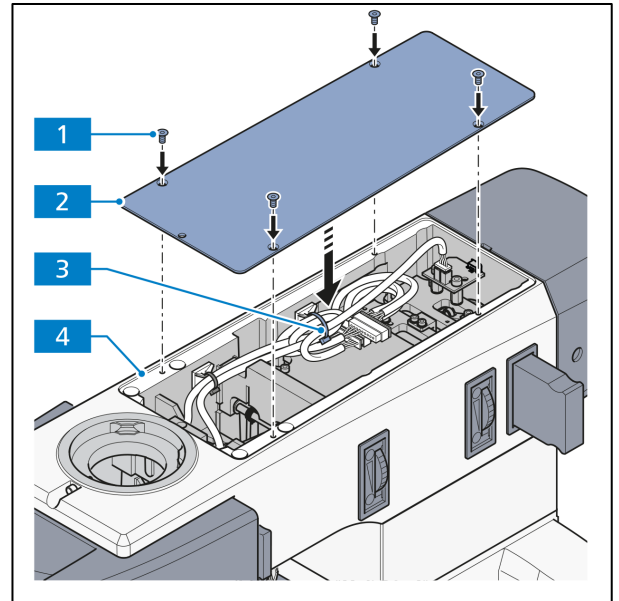

Fig. 3-59 Mounting the cover on the upper stand part
- Place the cover (Fig. 3-59/2) on the upper stand (Fig. 3-59/4) part and tighten it with the 4 screws (Fig. 3-59/1).
- Secure the cables with one cable tie (Fig. 3-59/3).